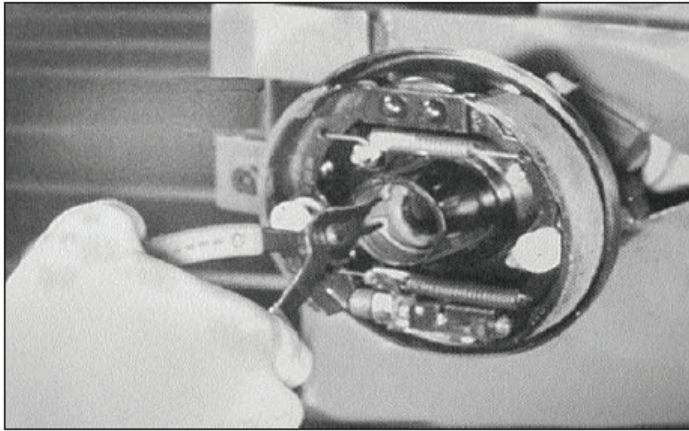

Figure 7-29. Installing Inner Snap Ring
17. Install inner snap ring (25) to both right and left tubes. See Figure 7-29).